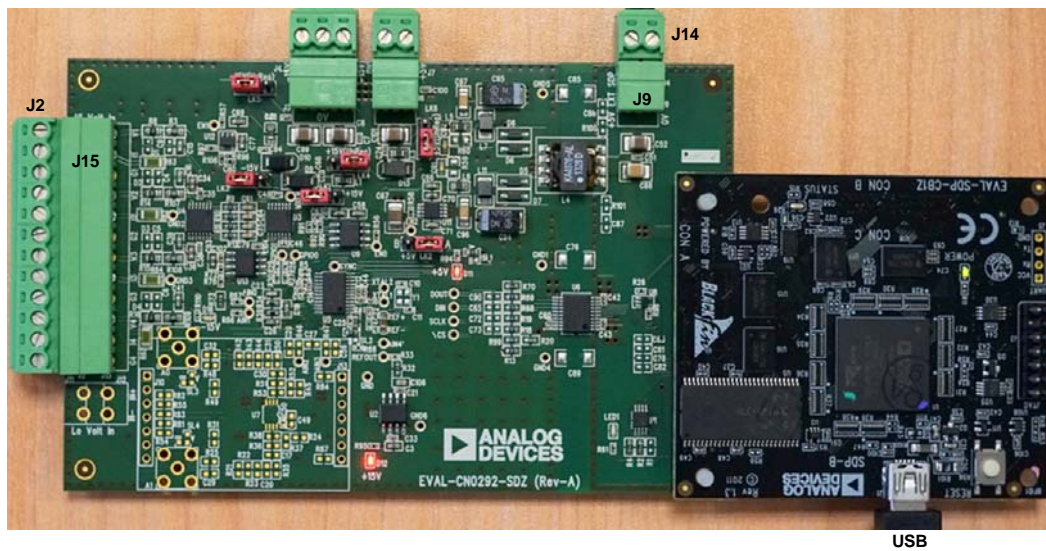

Figure 10. Photo of EVAL-CN0292-SDZ Evaluation Board Connected to EVAL-SDP-CB1Z SDP Board
- Power the board with a dc 5 V, 1 A power source connected to J14 (see Figure 10).